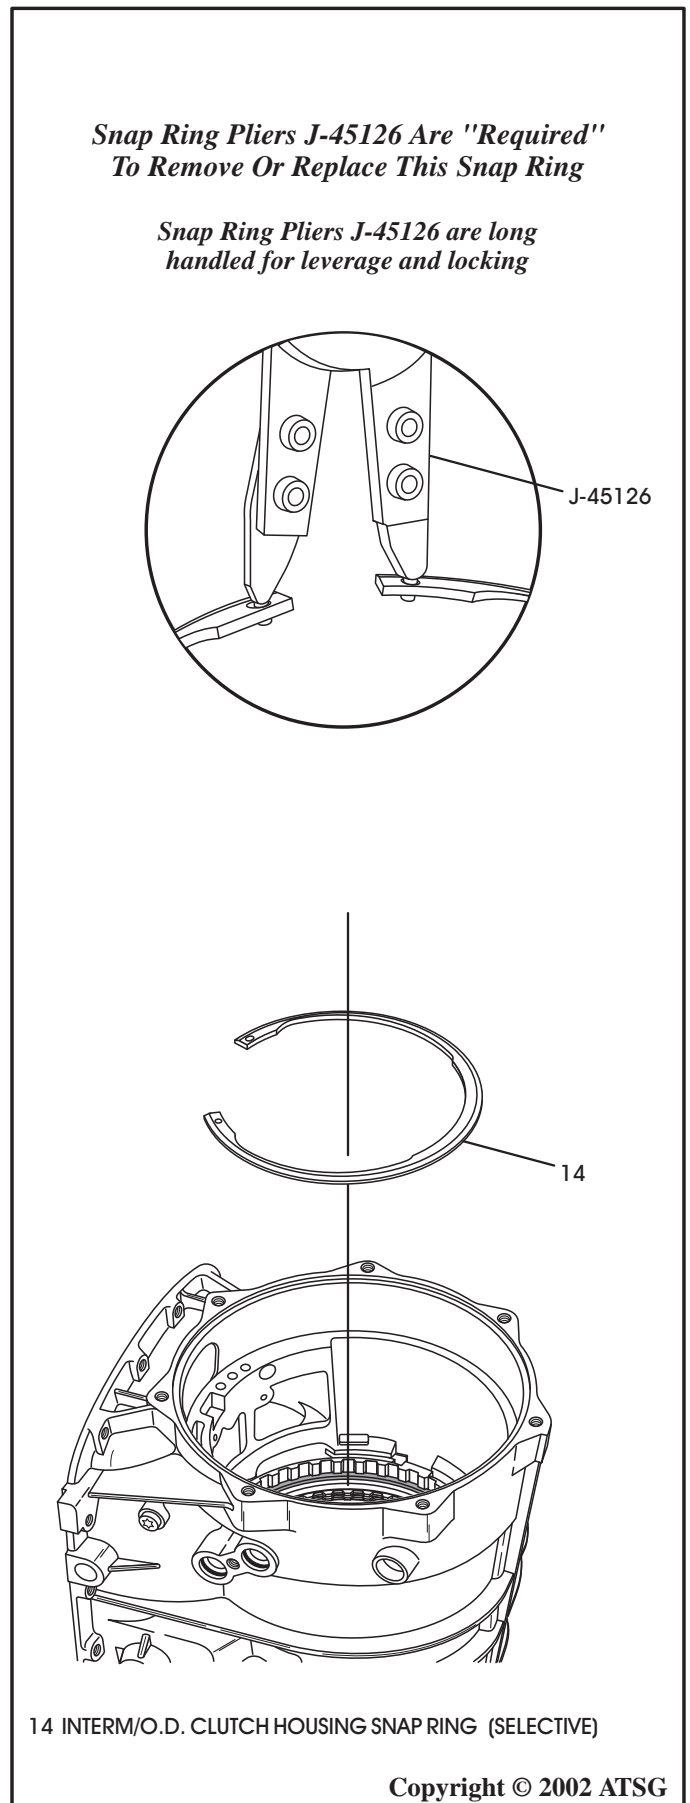

Figure 183
13. Now you can install the proper size snap ring using the J-45126 snap ring pliers, as shown in Figure 183.